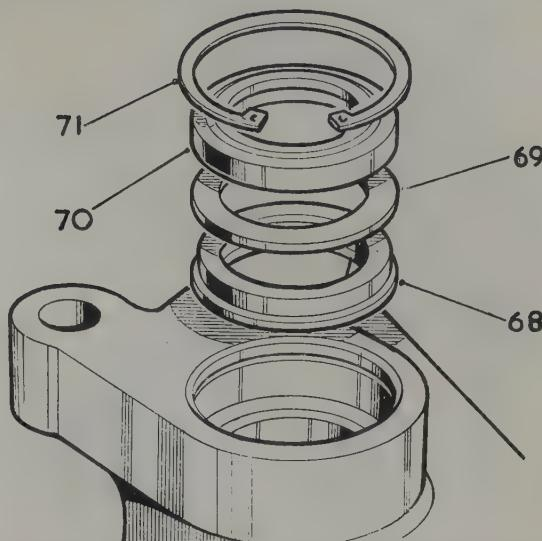

Fig. 11.47. Fitting sector shaft oil seal (68) extrusion washer (69) dirt excluder (70) and circlip (71) to power steering box
- 34 Fit the sector shaft oil seal (lip leading), the extrusion washer, dirt excluder (flat side leading) and the circlip (Fig. 11.47).